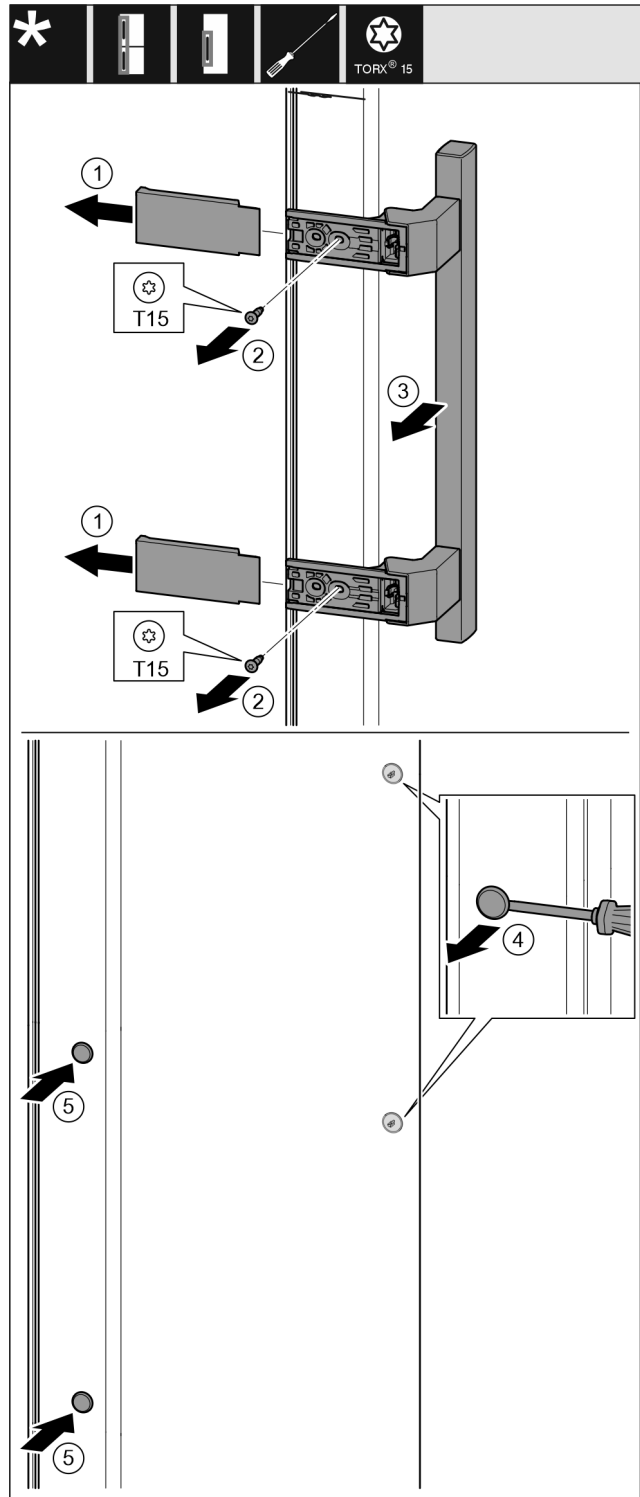

Fig. 16
- Pull off the cover. Fig. 16 (1)
- Unscrew the screws with a Torx 15 screwdriver. Fig. 16 (2)
- Take off the handle. Fig. 16 (3)
- Carefully lift the side plug with a slotted screwdriver and pull it out. Fig. 16 (4)
- Replace the plug on the other side. Fig. 16 (5)